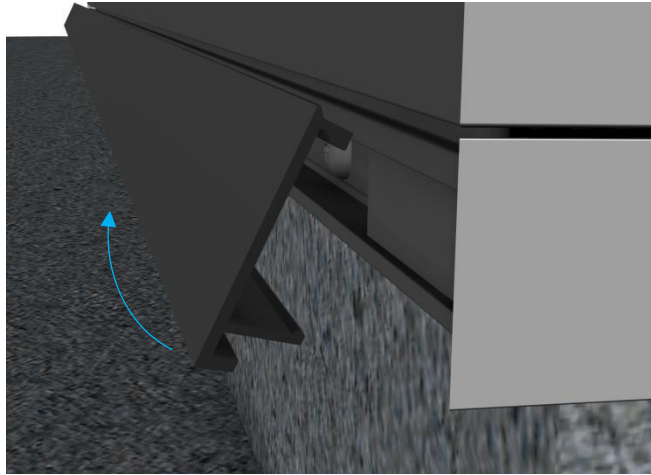

Figure 4 – Clip release direction
4. Remove the clip-on covers around the lower perimeter of the rooflight. This is done by first pulling the bottom to release as shown in *Figure 4*.